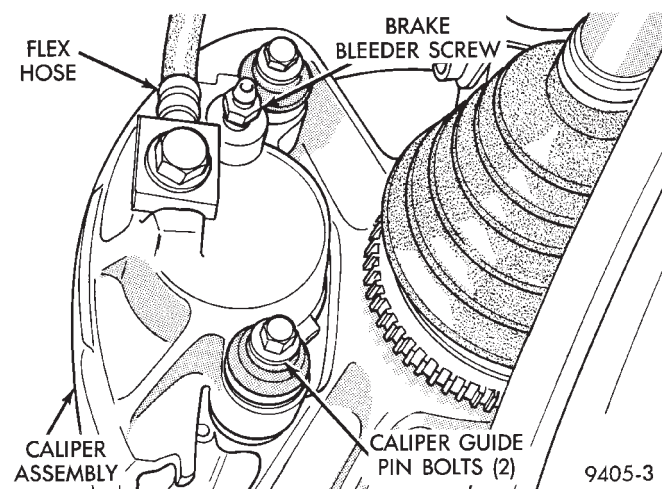

**Fig. 31 Open Bleeder Screw at Least One Full Turn**
(2) Open the bleeder screw at least **one full turn** or more to obtain an steady stream of brake fluid (Fig. 31).